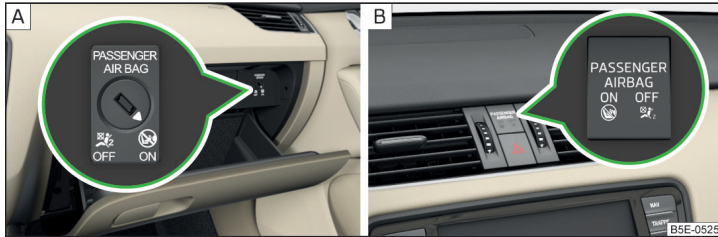

Fig. 13 Key-operated switch for the front passenger airbag/warning light for the front passenger airbag
The front passenger airbag can be switched off with the key-operated switch » Fig. 13 on page 20 - A.
Key switch positions » Fig. 13 - A
- › Use the key to turn the slot of the key switch » Fig. 13 A carefully into the position **OFF**.
- › Check that the warning light **OFF** » underneath the text **PASSENGER AIRBAG** » Fig. 13 - B lights up after the ignition is switched on.
- › Use the key to turn the slot of the key switch » Fig. 13 A carefully into the position **ON**.
- › Check that the warning light **ON** » underneath the text **PASSENGER AIRBAG** » Fig. 13 - B lights up after the ignition is switched on.